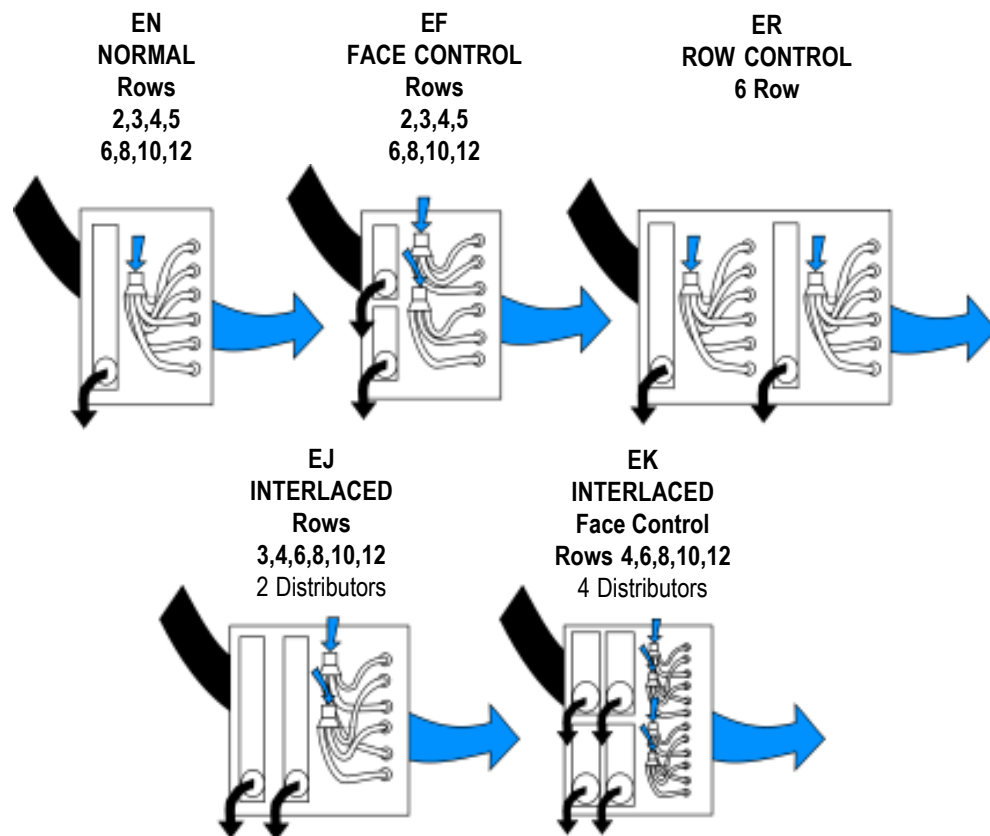

Figure 1 - Evaporator Coils
3. See Figure 1 - Evaporator Coils.
3. Heatcraft offers a row control (ER) option for six row evaporators. These coils are split two rows and four rows which offer approximately a 50% capacity reduction.
6. See Figure 1 - Evaporator Coils.